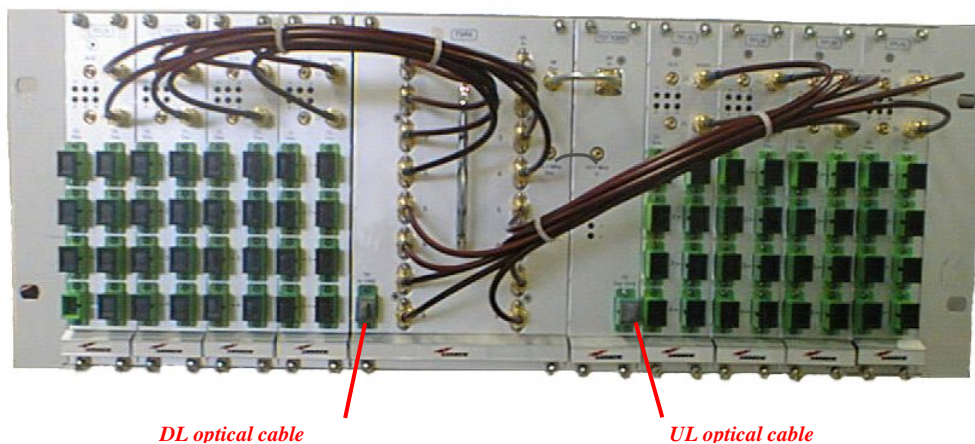

Fig. 5.33: TILx-HL slave side
- The i-link modules at slave side should be installed in the middle of the slave subrack, or at least they should have no more than 4 TFLN modules both on the right side and on the left side of the TSRX 2xx/8 module. This requirement is advised in order to allow connection between the TSRX module and all the TFLN transmitters (see fig. 5.33)
On the master-side station, the i-link modules are to be housed into 2 adjacent slots, chosen among the 12 available ones in the subrack. On the slave-side subrack, the i-link modules are to be housed into 4 adjacent slots: moreover, due to the particular cabling they require, these 4 adjacent slots should be placed in mid-subrack, so that no more than 4 TFLN local units stay on each side of the i-link modules (as shown in fig. 5.33).